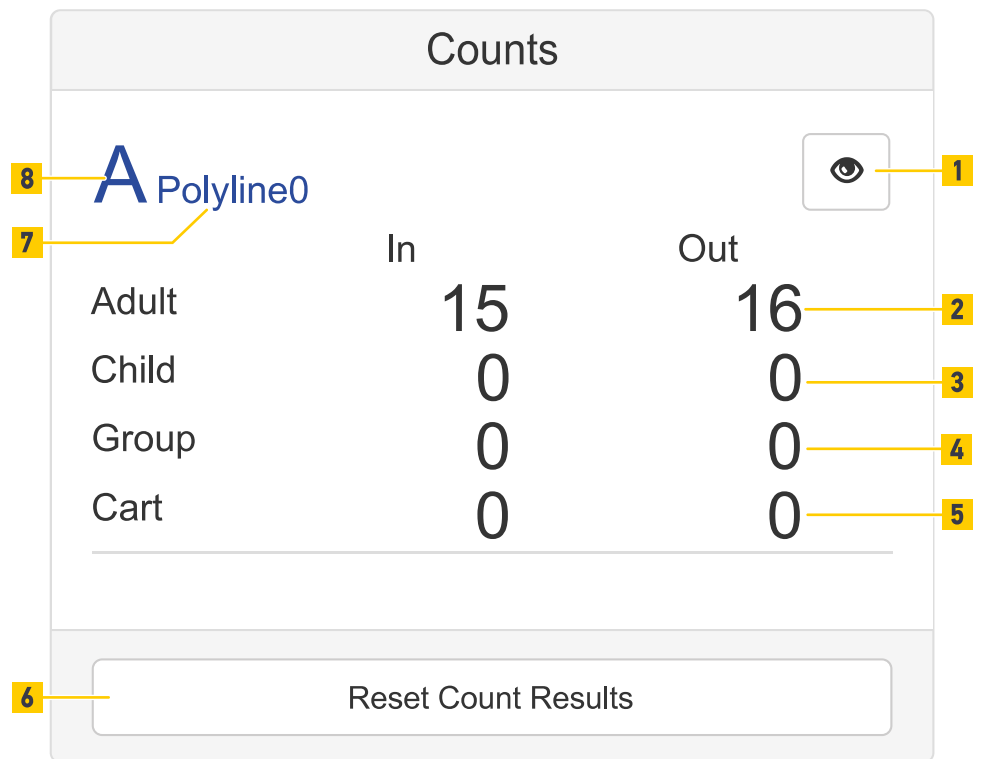

Fig. 157: Counts with 1 counting line
- The counting line is specified with its identifier (Fig. 157 /8) and its name (Fig. 157 /7).
- To show or hide the counting line in the live view click the  button (Fig. 157 /1).
- See the data for incoming and outgoing adults (Fig. 157 /2).
- See the data for incoming and outgoing children (Fig. 157 /3).
- See the data for incoming and outgoing groups (Fig. 157 /4).
- See the data for incoming and outgoing carts (Fig. 157 /5).
- To set the count information to 0 in the user interface click the Reset Count Results button (Fig. 157 /6). Reset has no effect on internal counts or data protocols.